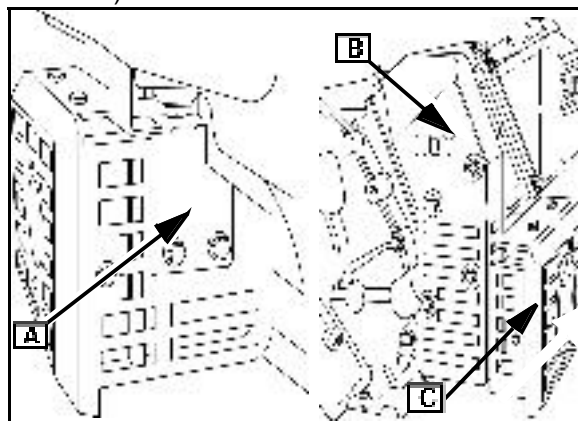

Fig. 12
1. Remove carburetor heat shield ([A] Fig. 12).
2. Remove muffler guard (B) and manifold guard ([C] Fig. 12).